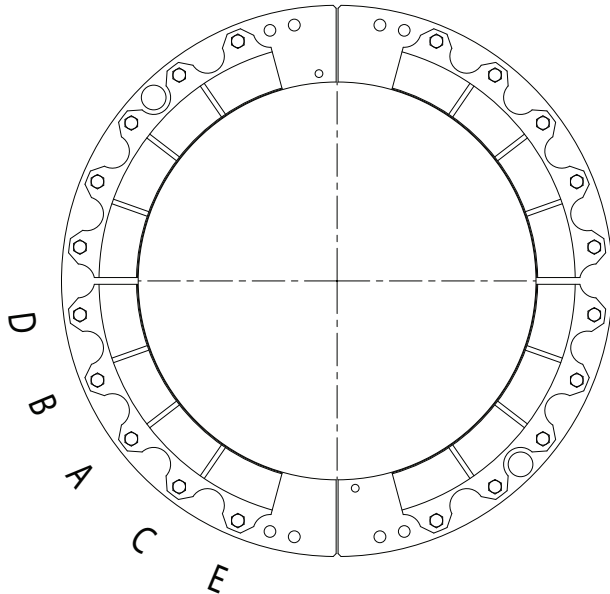

Figure 10 : Friction Shoe Screw Tightening Sequence
- 4.1.5 Tighten the screws in the sequence shown on **Figure 10** (A first, then B, and so on) to the torque specification listed on Table 4.